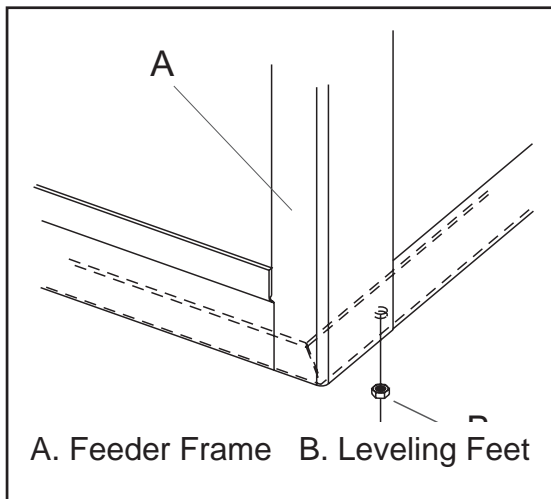

Figure 10. Installing Foot Assembly to Frame
3. Next, thread these leveling foot assemblies clockwise into the threaded holes in the bottom corners of the feeder frame. See Figure 10.